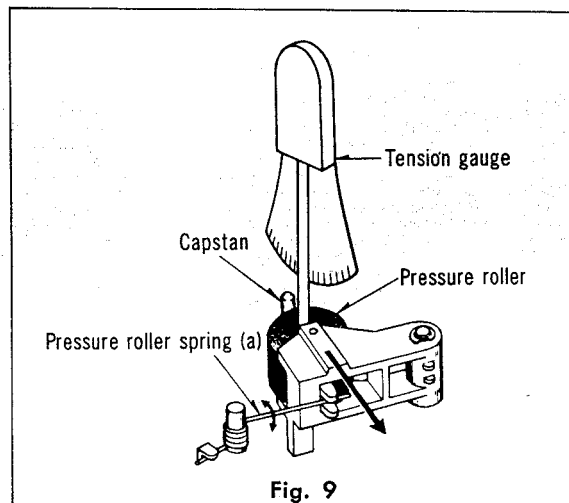

Fig. 9
2. Connect the tension gauge to the pressure roller lever and pull it in the direction of the arrow as shown in fig. 9.